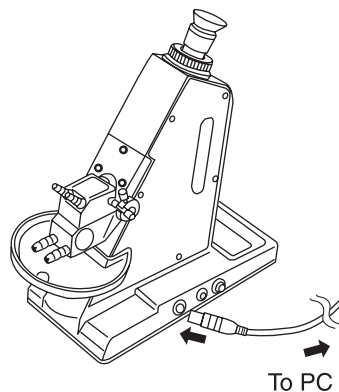

Fig.11-1
- ① Disconnect the AC power cable of refractometer from the mains outlet.
- ② Make sure that Windows has started correctly and completely.
- ③ Connect the refractometer and computer with the data cable for computer. Attach the special connector to the printer/RS-232C port of the refractometer (Fig. 11-1) and the D-Sub 9-pin connector to the serial communication port of the computer.